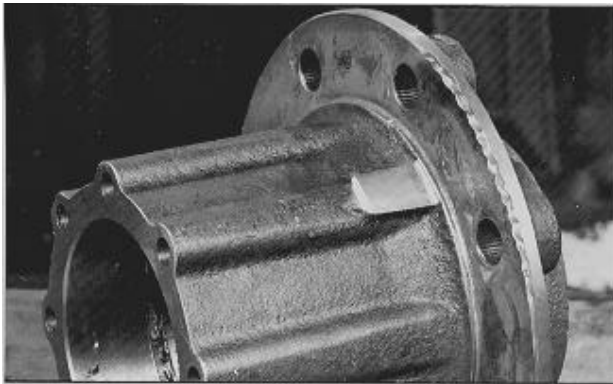

Figure 33 Worn Mounting Face
2. Worn Mounting Face (Figure 33). This condition is caused by a loose wheel assembly with outboard mounted drum. The outer mounting face of the brake drum is worn. Replace hub or brake drum.